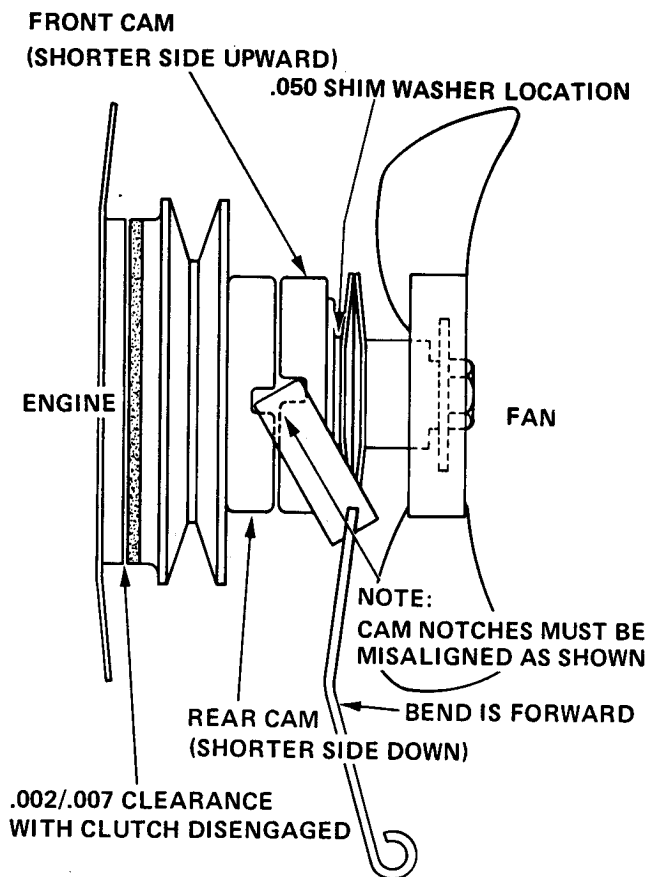

FIGURE 12
4. Place the two cam assemblies (2) on the drive hub.
5. See Figure 12. Rotate the cams until the lever notches are misaligned as shown. The inner cam must be positioned so the shorter side is downward and the outer cam must have the shorter side upward.
6. Separate the cams enough to insert the engaging lever (1). The engaging lever must be installed so the bend for the control rod is toward the front of the tractor.
7. Place the two springs (4) dished outward on the drive hub.
8. If the snap ring (5) is to be used rather than the spacer kit (13), compress the load springs enough in a vise to expose the groove.